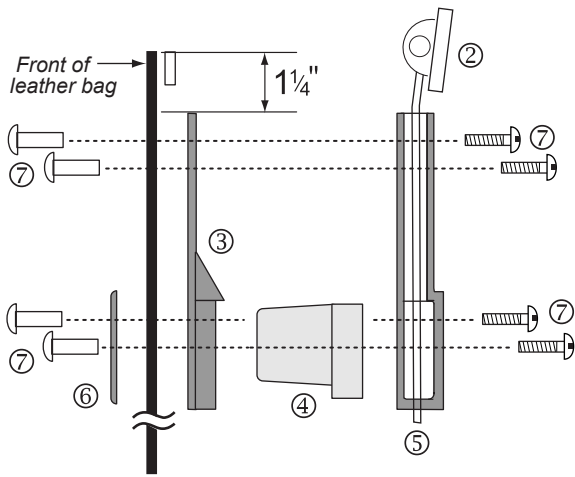

FIG 1. Sectional side view of lock assembly
4. Sandwich the lock, item 4, between items 3 and 5 as shown above in FIG.1. Fasten it to the bag with the black slotted blind screws (items 7). Sandwich the leather between the lock cover plate (item 6) on the outside and the lock assembly. It may be necessary to remove a section of excess overlapped leather.
5. Use the phillips head screws (item 7) provided to attach the spring loaded ratched bar assembly.